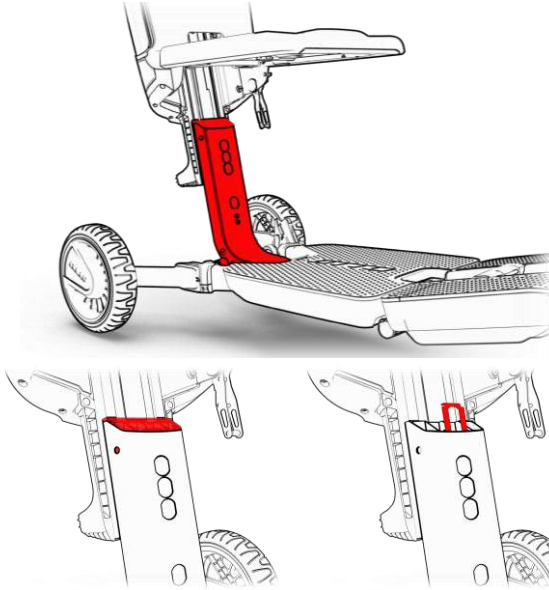

Figure 24 Seat height cover
1. ATTO must be in an opened position to adjust the seat height. Lift the seat to an upright position, locate the seat height adjustment cover, which is at the base of seat right under the seat pivots, and remove it by pressing on two side spots with a screwdriver (see Figure 24, step 1).
2. Under the cover you will find a metal bracket that has to be removed. Hold the bracket between your fingers and lift it out. Remember the bracket's position to make it easier to put it back in place again (see Figure 24, step 2).